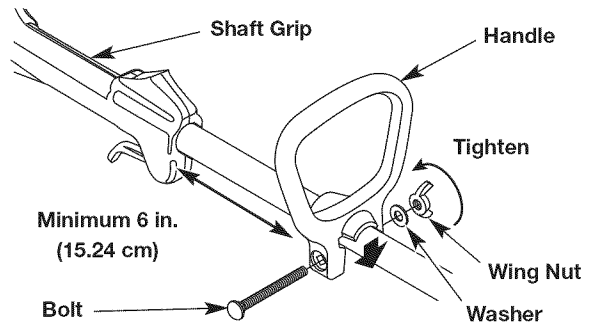

Fig. 2
1. Loosen the wing nut (Fig. 2).
2. While holding the unit in the operating position, move the handle to the location that provides the best grip. Place it a minimum of 6 inches (15.24 cm) from the end of the shaft grip (Fig. 2).